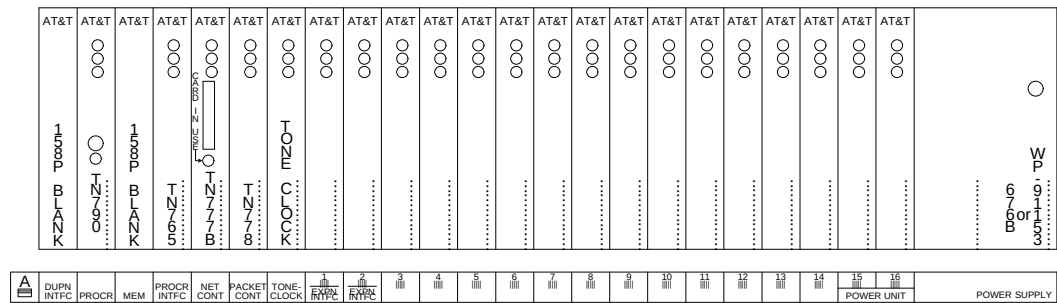

Figure 12-85. Circuit-Pack Locations in R5si Enhanced Control Cabinet
- 1. See WARNING. Install the TN790 processor circuit pack into the control-cabinet slots labeled "PROCR" (see Figure 12-85).